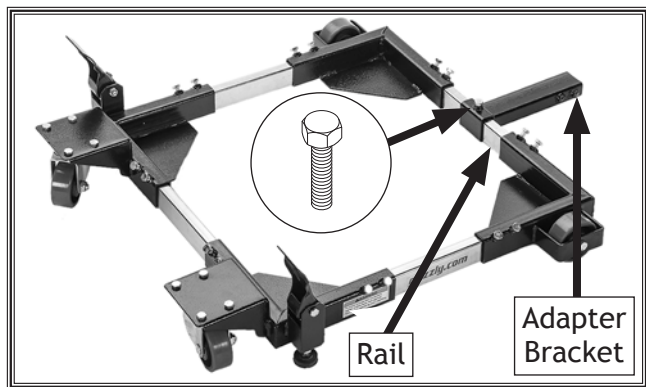

Figure 4. Adapter bracket attached to rail between fixed wheels.
2. Slide adapter bracket over rail between fixed wheels, then center and secure bracket with M8-1.25 x 16 hex bolt (see Figure 4).